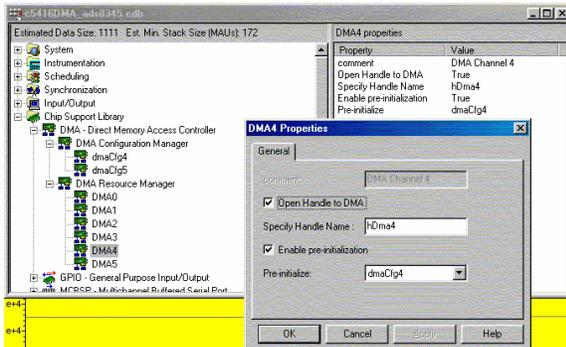

Figure 22. DMA Channel 4 Resource Link
8. Expand the DMA resource Manager directory. Highlight DMA4 and select properties. Check Open Handle and Enable pre-initialization as shown in Figure 22. Select Pre-initialize dmaCfg4 from the menu.